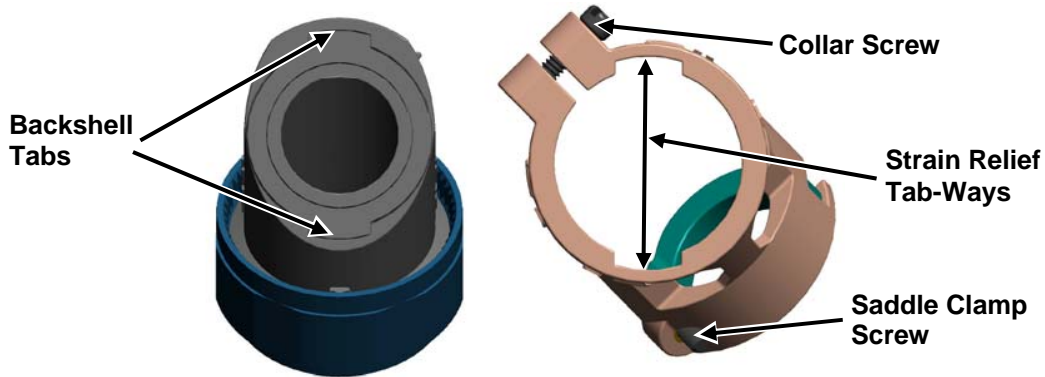

Figure 8. Backshell Tabs and Strain Relief Tab-Ways
1. Slide the aluminum strain relief up to the edge of the backshell and locate the tabs on the backshell and tab ways in the strain relief similar to those shown in Figure 8.
4. Return to Step 9 of Section 6.4 to tighten the collar screw and saddle clamp screw according to the torque values in Table 3. See Figure 8.